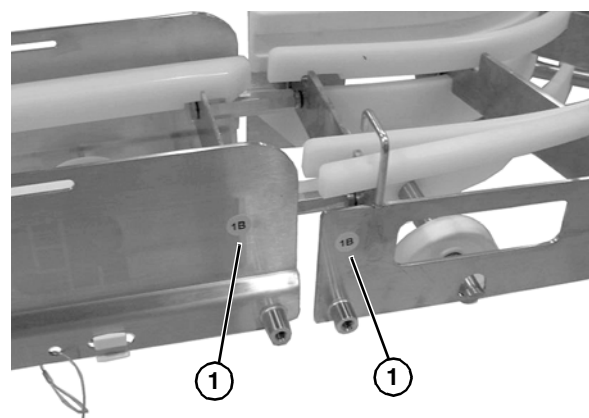

Figure 5
1. Locate and arrange conveyor sections by section labels (Figure 5, item 1).